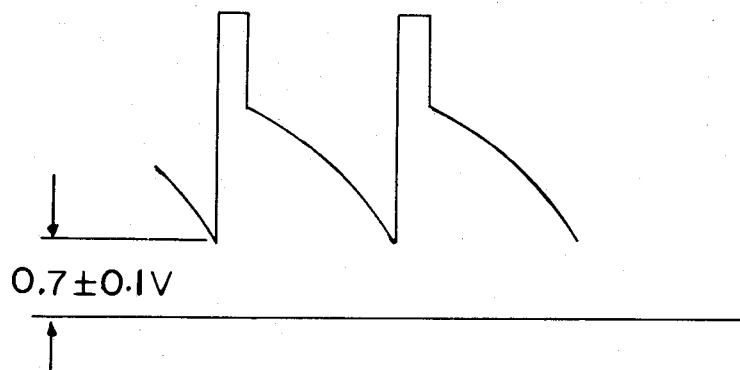

Figure 2
3. Adjust the V-Bias (R618) to obtain the waveform shown in figure 2.